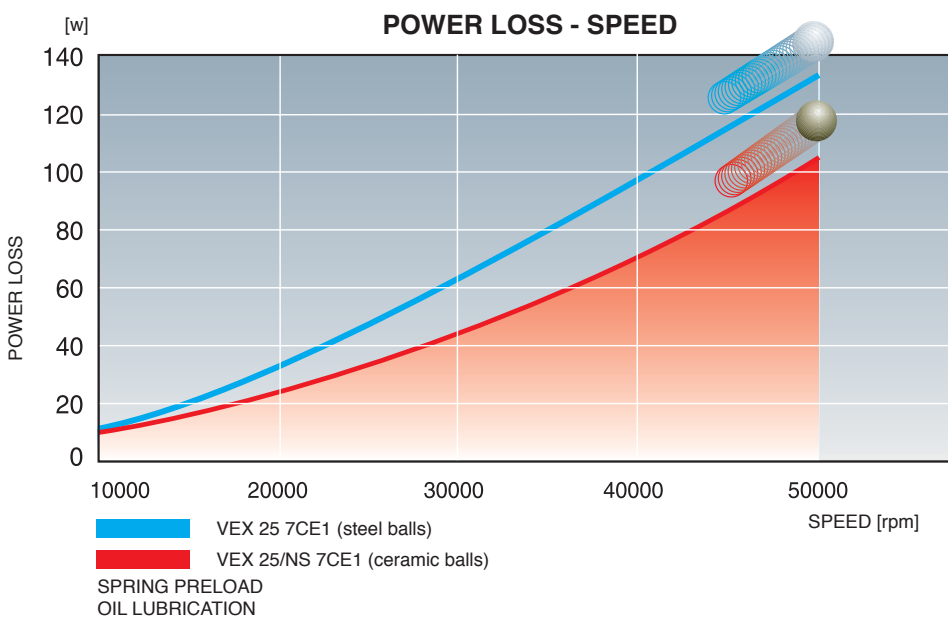

Fig. 14
- lower power dissipation (Figure 14)